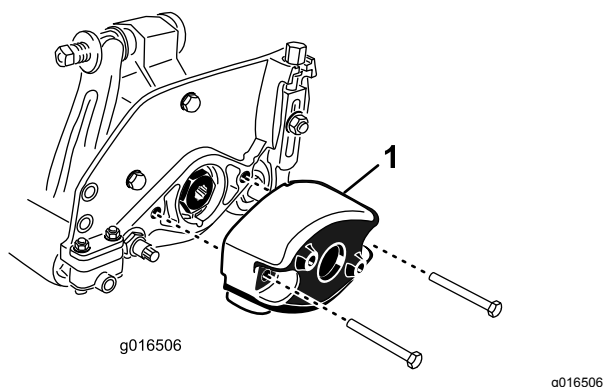

Figure 9
- Remove the 2 bolts securing the counter weight to the left end of the cutting unit. Remove the counter weight (Figure 9).
5. On the right end of the cutting unit, apply a light coating of oil to the O-ring and install the counter weight with the bolts previously removed (Figure 9). Torque the bolts to 16 to 20 N·m (12 to 15 ft-lb).